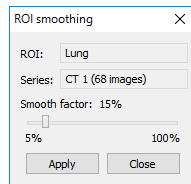

Figure 249 – ROI smoothing dialog
2. The **ROI smoothing** dialog is then displayed (see Figure 249).